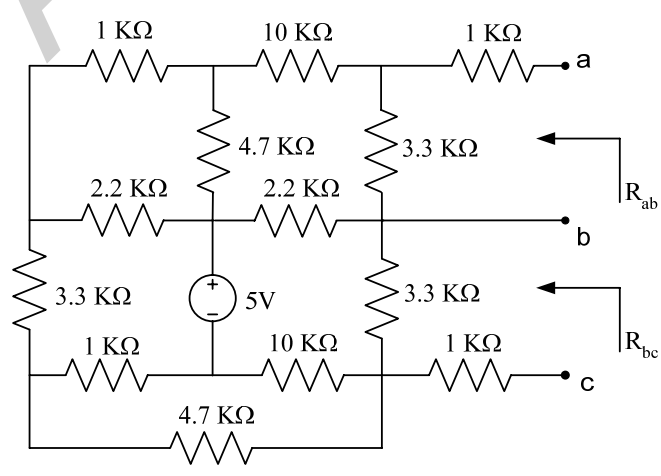
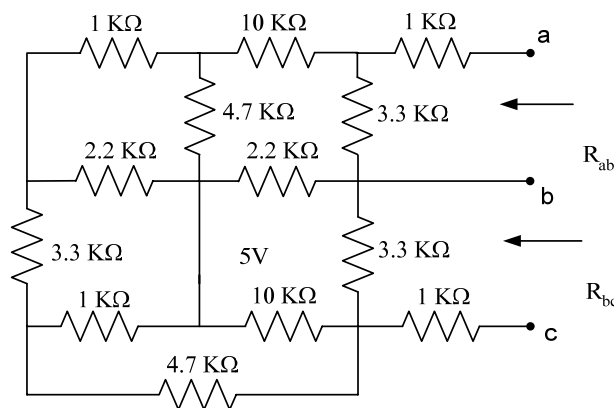

Figure 7.1: Resistance measurement
Figure 7.2: Resistance measurement using ohmmeter method
Connect the circuit given in Figure 7.1. Then measure the equivalent resistance looking through terminals a-b (R_{ab}) and also the equivalent resistance looking through terminals b-c (R_{bc}). For this purpose, different methods will be used as described below:
2. Next we have to replace all the independent sources by their internal resistance. The resistance of an ideal voltage source is zero and the resistance of an ideal current source is infinite. So, the 5V voltage source in the circuit of Figure 7.1 should be removed completely and replaced by a short circuit (zero ohms). This will result in the circuit of Figure 7.2.
- This method is an indirect approach of the above method. For this purpose, deactivate the 5V supply of Figure 7.1 as before and replace it with a short circuit.
deactivating the sources as in circuits containing dependent sources or electronic devices. Reconnect the circuit of Figure 7.1.
1. This method also uses the principle of Thevenin's theorem and can be applied without removing any source from the original circuit. For this purpose, first measure the open-circuit voltage V_{OC} across terminals a and b of Figure 7.1.